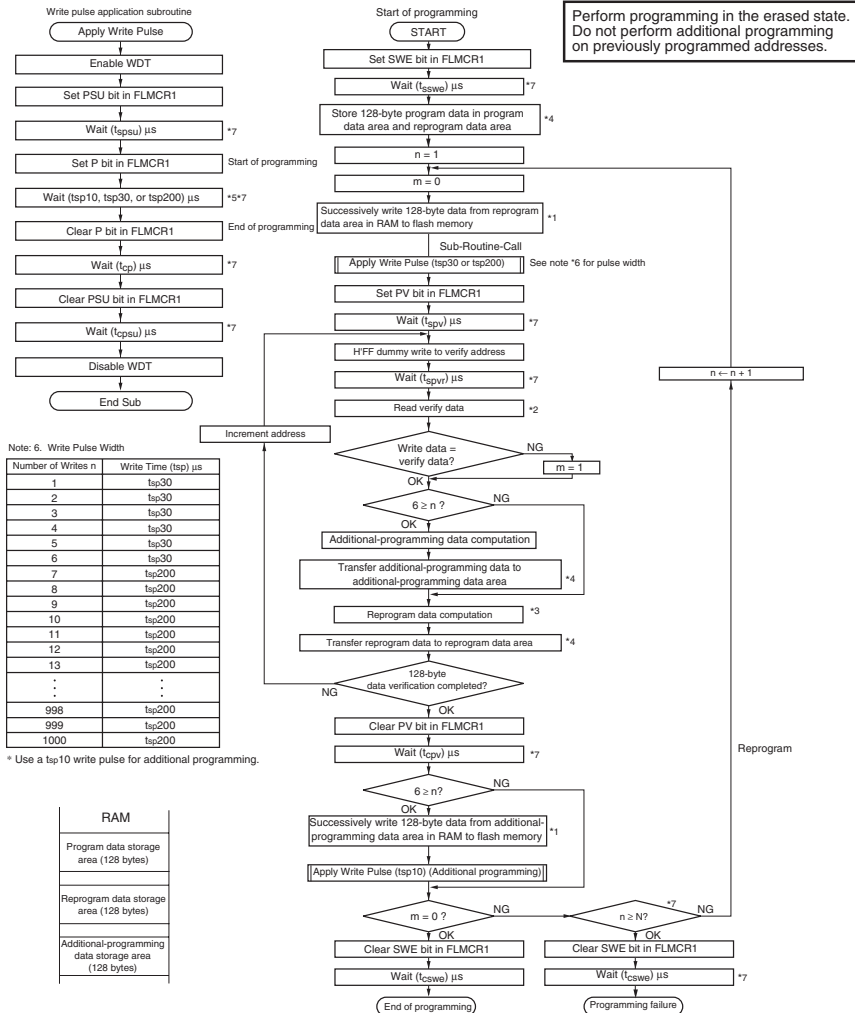

Figure 19.9 Program/Program-Verify Flowchart
When writing data or programs to the flash memory, the program/program-verify flowchart shown in figure 19.9 should be followed. Performing programming operations according to this flowchart will enable data or programs to be written to the flash memory without subjecting the chip to voltage stress or sacrificing program data reliability.
3. Prepare the following data storage areas in RAM: A 128-byte programming data area, a 128-byte reprogramming data area, and a 128-byte additional-programming data area. Perform reprogramming data computation and additional programming data computation according to figure 19.9.
5. The time during which the P bit is set to 1 is the programming time. Figure 19.9 shows the allowable programming time.
8. The number of repetitions of the program/program-verify sequence to the same bit should not exceed the maximum number of programming (N).